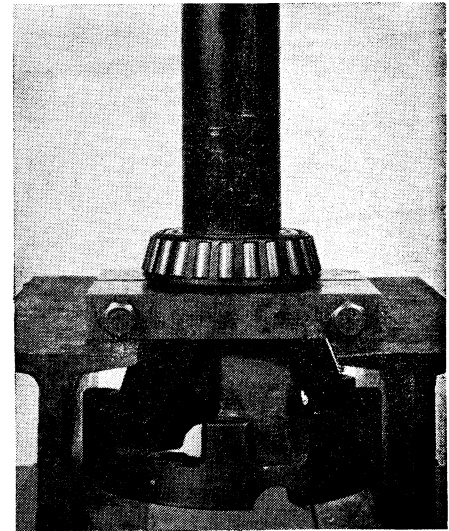

Fig. 96 Remove differential bearings with bearing puller
5. Use bearing puller, Fig. 96, to remove bearings if necessary.